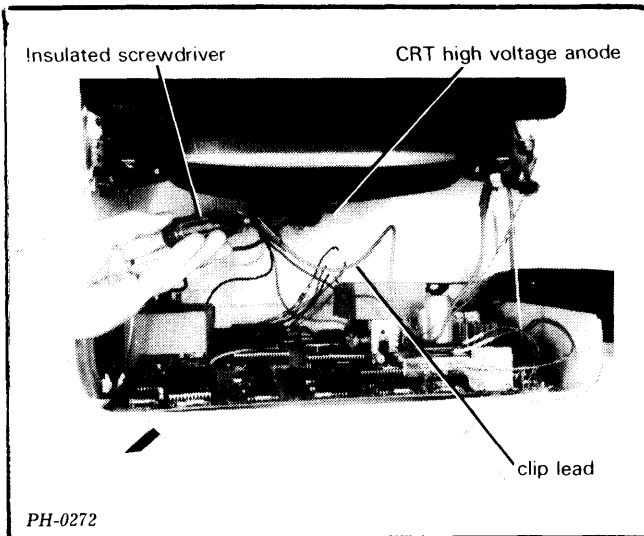

Figure 8.12 Discharging the CRT
WARNING: Never touch the CRT high voltage anode or the connecting wire without first discharging the CRT since high voltage is present even with the power off (see figure 8.12).
5. DISCHARGE THE HIGH VOLTAGE IN THE CRT as follows (see figure 8.12):